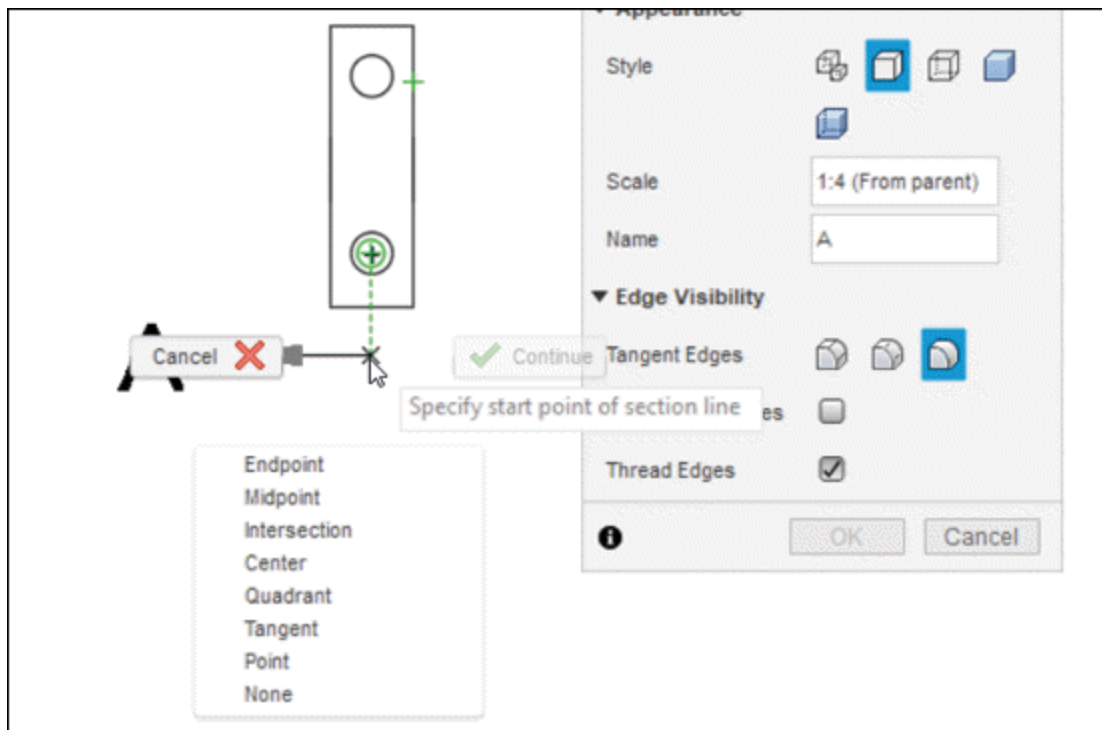
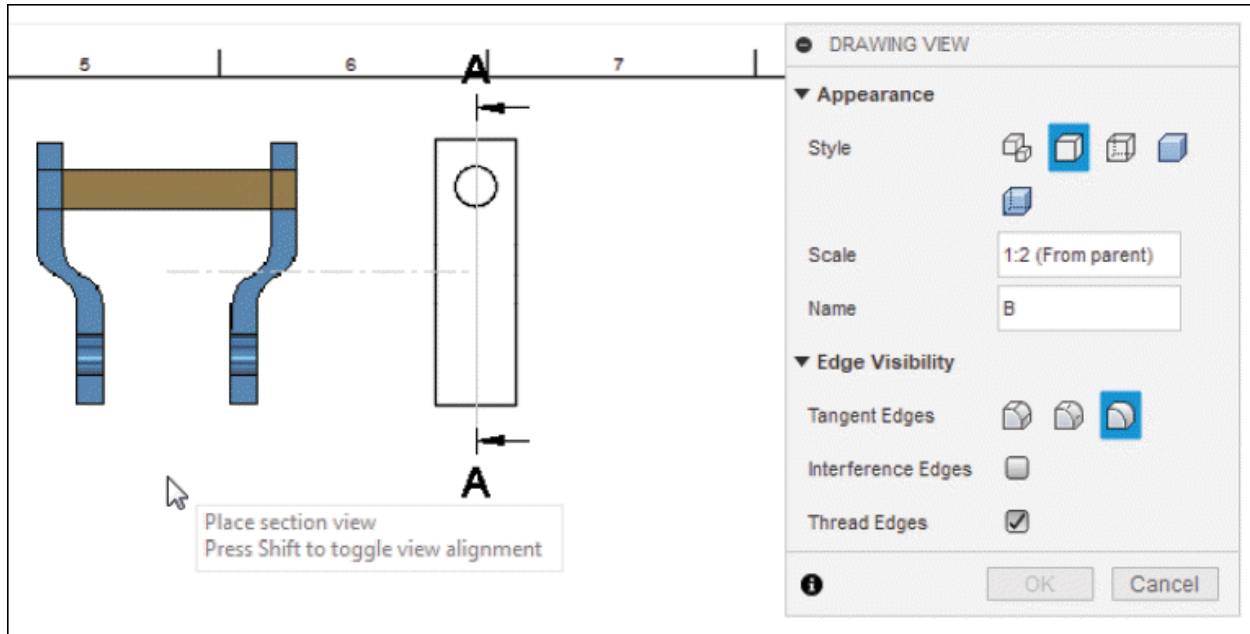

Figure-14. Shortcut menu for snap points
Figure-15. Section view attached to the cursor
- Click on the parent view to specify the start point and end point. You can create different shape of section line to create desired type of section. Note that you can use snap point in right-click shortcut menu to select points for section line; refer to Figure-14. After specifying the start point, intermediate points, and end point, click on **ENTER** key. The section view will be created and attached to the cursor; refer to Figure-15.